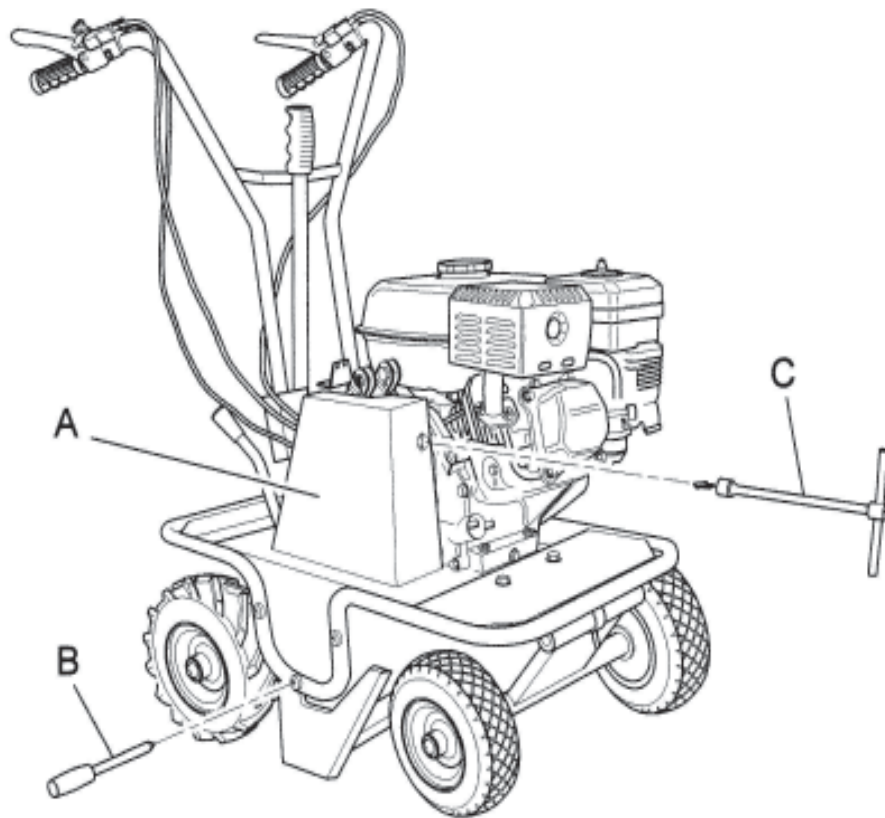

Figure 6
- remove the metal guard (fig. 6 ref. A), by unscrewing and taking out the screws shown in figure 6 ref. B and C.